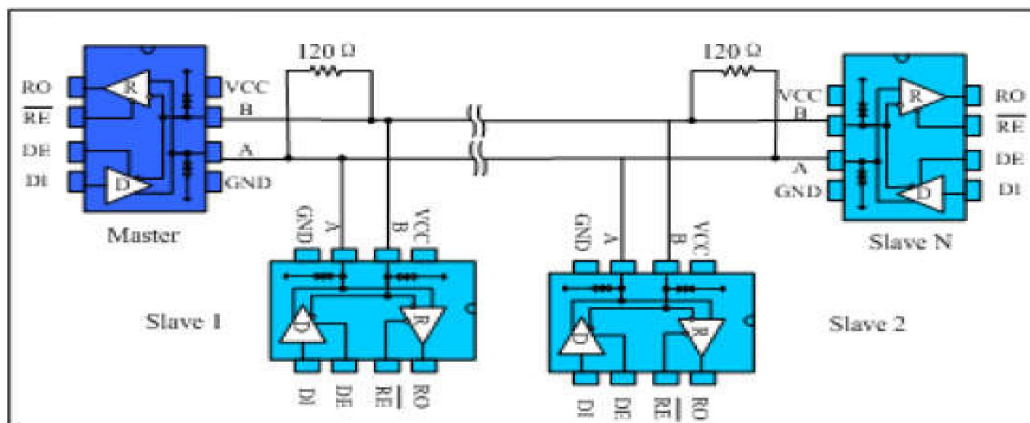

Fig. 9 Bus-type RS485 half-duplex communication network
**4.1 Bus networking:** The MAX481ECSA-TD RS485 transceiver is designed for bidirectional data communication on multi-point bus transmission lines. Figure 9 shows a typical network application circuit. These devices can also be used